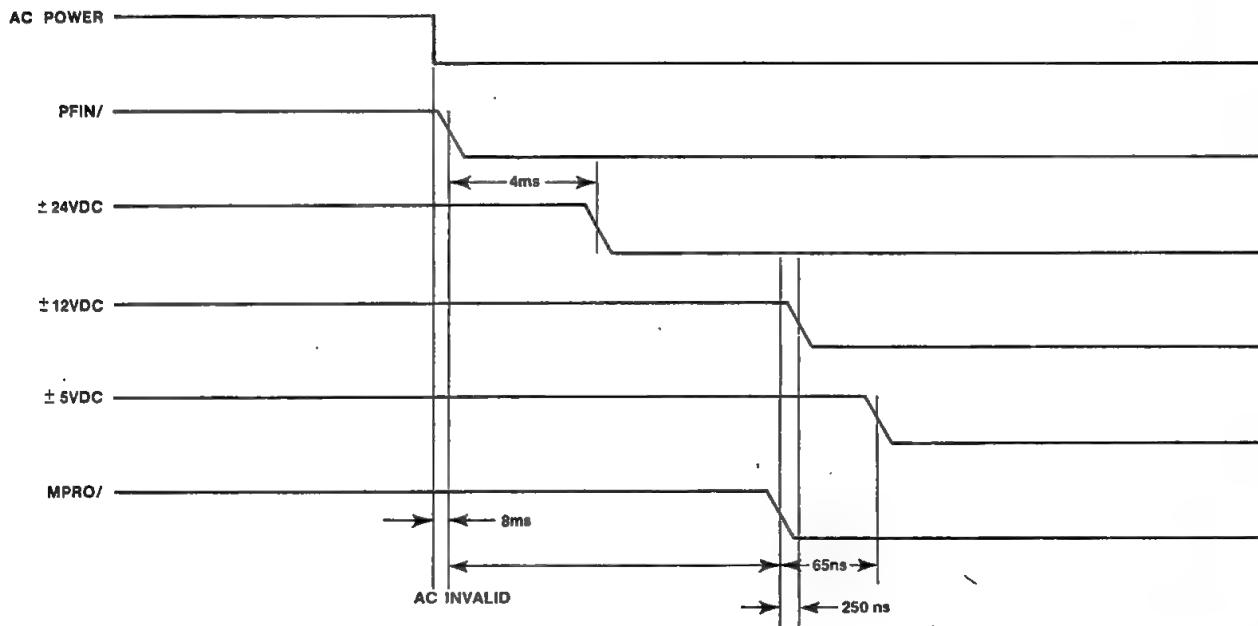

Figure 3-6. Power-Fail Timing Diagram
An AC power-fail condition exists when the AC input power drops below the preset failure level for 8 milliseconds, Table 1-1. This condition causes the power supply shut down DC outputs in the sequence shown in Figure 3-6.
- b. After power is lost for the 8 millisecond period, ± 24 , VDC outputs decrease per the sequence shown in Figure 3-6.
- When the line voltage drops below the present level and remains below that level for 8 milliseconds, power-fail commences, see Figure 3-6.